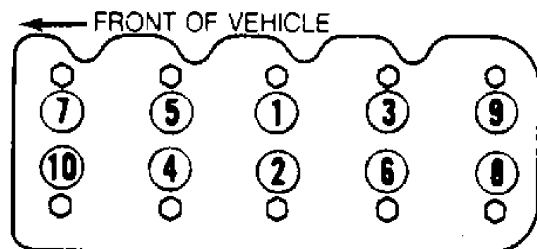

Fig. 4: Cylinder Head Bolt Tightening Sequence
2) Remove timing belt. See TIMING BELT under REMOVAL & INSTALLATION. Loosen cylinder head bolts in reverse order of tightening sequence. See Fig. 4. Loosen head bolts in 2 or 3 steps to prevent cylinder head warpage. Remove bolts and cylinder head.
3) Loosen cylinder head bolts in reverse order of tightening sequence. See Fig. 4. Loosen head bolts in 2 or 3 steps to prevent cylinder head warpage. Remove bolts and cylinder head with intake and exhaust manifolds.
To install cylinder head, reverse removal procedure. Use NEW head and manifold gaskets. Tighten cylinder head bolts to specifications in 3 steps using proper sequence. See Fig. 4. See TORQUE SPECIFICATIONS table at end of article. Adjust timing belt.